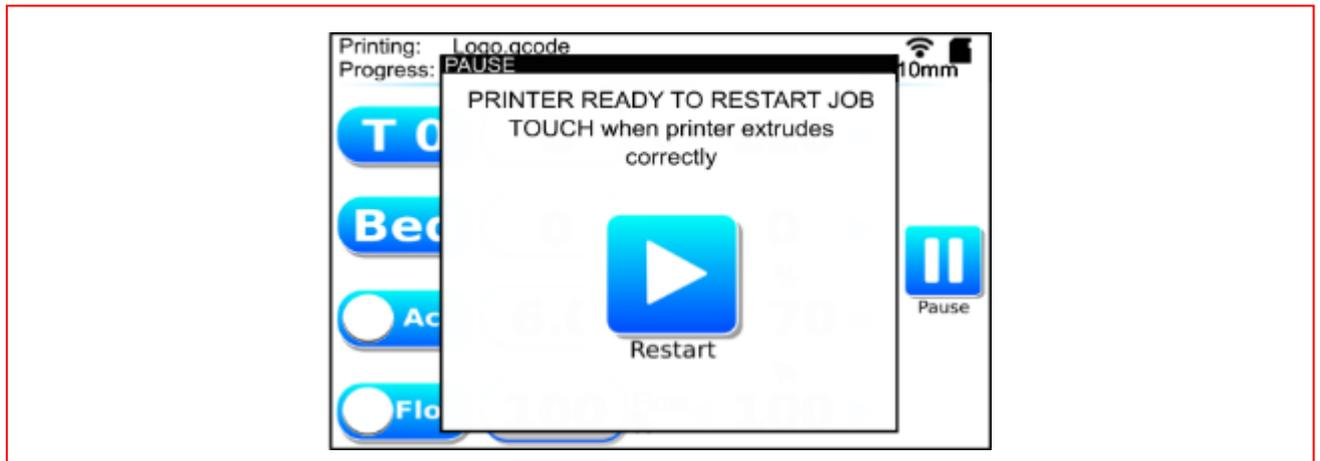

Figure 3-7 “Pause” Screen showing Restart command
- now select the **“Restart”** command. The printer begins to extrude slowly, filling the nozzle to the appropriate level. During this phase, the screen below is shown on the display (Figure 3-7). Check that the printer is extruding in a regular manner then **confirm the restart operation by selecting “Restart”**. To avoid imperfections in the printed object, you are advised to remove by hand the filament that is extruded during the restart phase, that is before the nozzle and table come into contact again. For this operation **you must always wear protective heat-resistant gloves and pay maximum attention to the nozzle, avoiding all contact with it.**